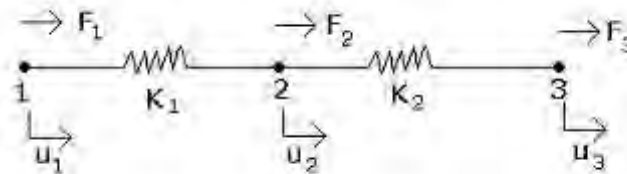

Figure 5
4. Derive the expression for elasticity matrix D (where $\sigma = D\epsilon$) for plane stress situation in terms of modulus of elasticity (E) and poisson's ratio (μ). [16]
5. For a system of two springs shown in figure 5, Derive the system stiffness matrix and displacements at all node points. [16]